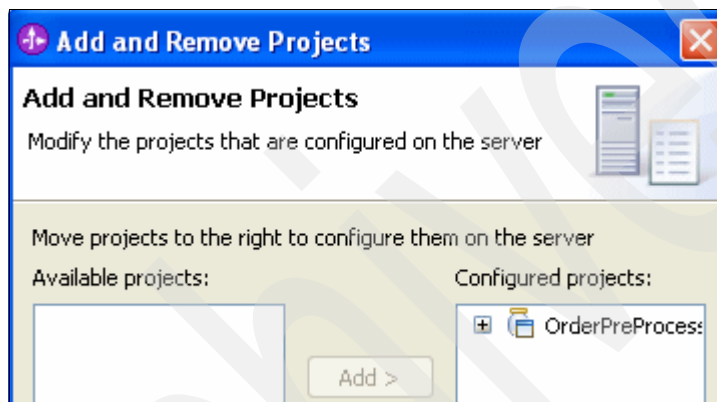

Figure 4-21 Mediation deployment over the test environment
2. Deploy the `OrderPreProcessingMediation` using the **Add and Remove Projects** utility on the server, shown in Figure 4-21.